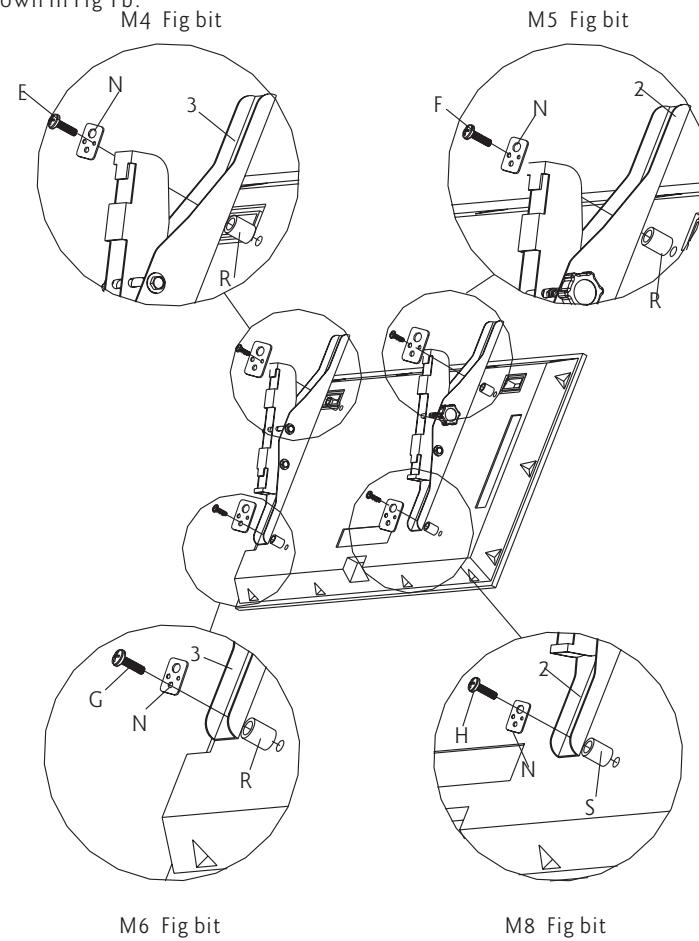

Fig 1b
2. Some displays have curved backs with recessed mounting lands (Fig. a). It will require the use of spacer. For this display, install a 9/16" spacer (R) or 1/2" spacer (S) between display and the bracket. As shown in Fig 1b.